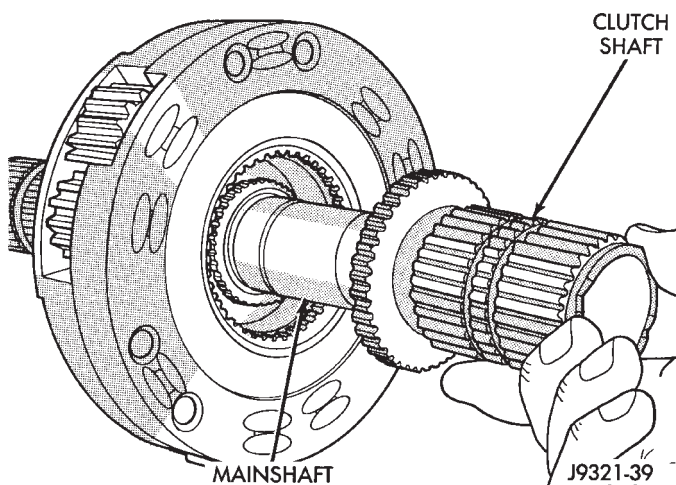

Fig. 39 Removing Clutch Shaft
(3) Slide clutch shaft off mainshaft (Fig. 39).